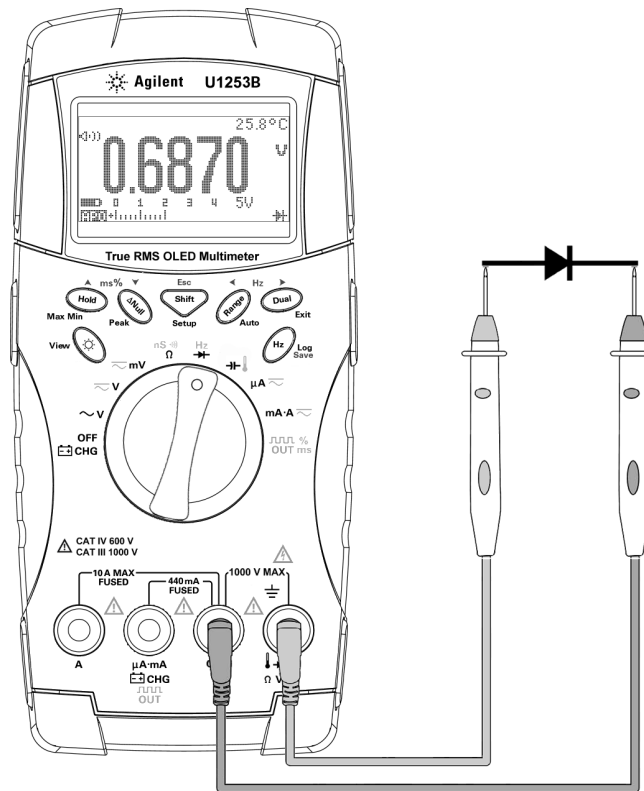

Figure 2-12 Measuring the forward bias of a diode
- 3 Connect the red test lead to the positive terminal (anode) of the diode and the black test lead to the negative terminal (cathode). Refer to Figure 2-12 on page 48.